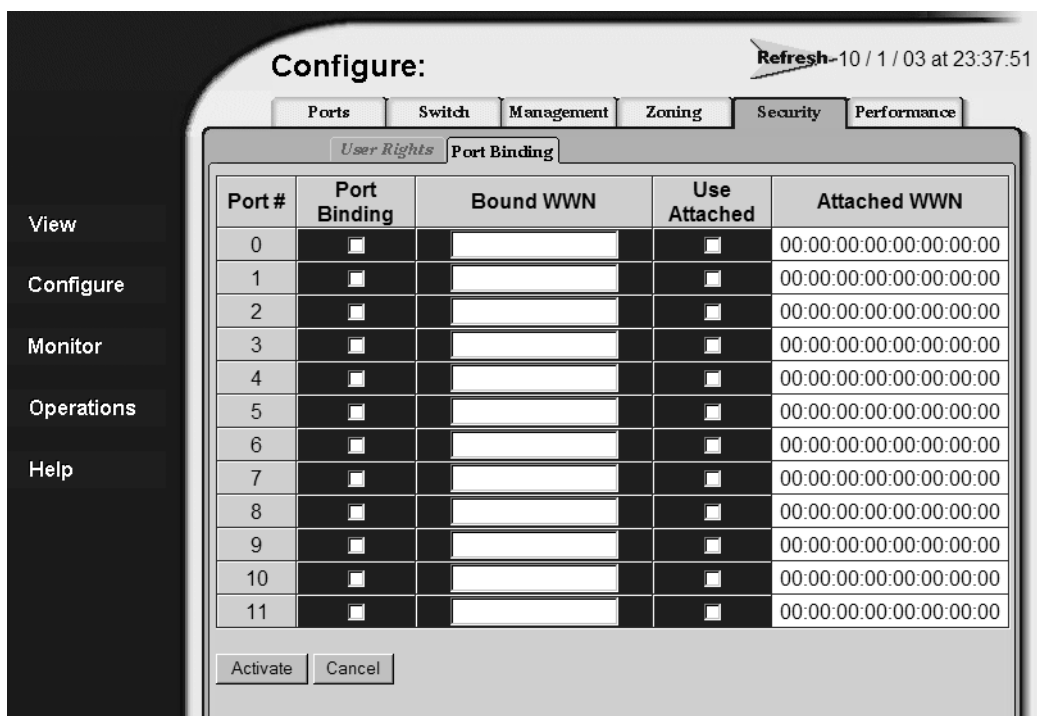

Figure 24: Security page—Port Binding tab
2. Click **Port Binding** to display the **Port Binding** tab (Figure 24).